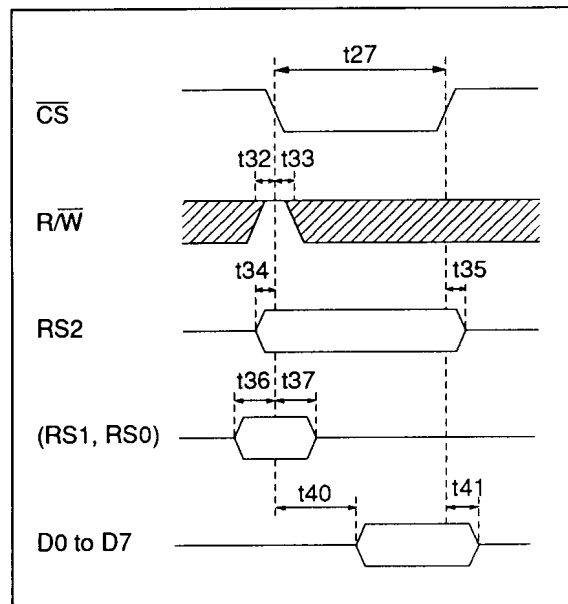

Figure 6
- Register Read: Data are read from registers via D0 to D7. See the timing diagram in figure 6.